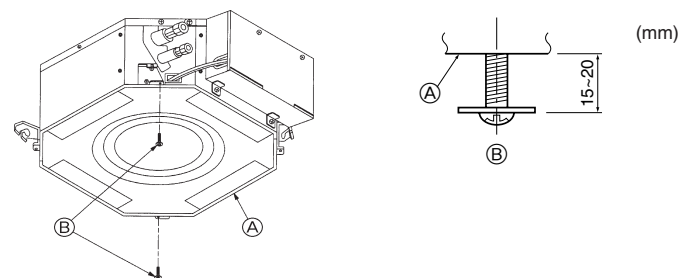

Fig. 8-5
8.3.1. Preparations (Fig. 8-5)
- (A) Main unit